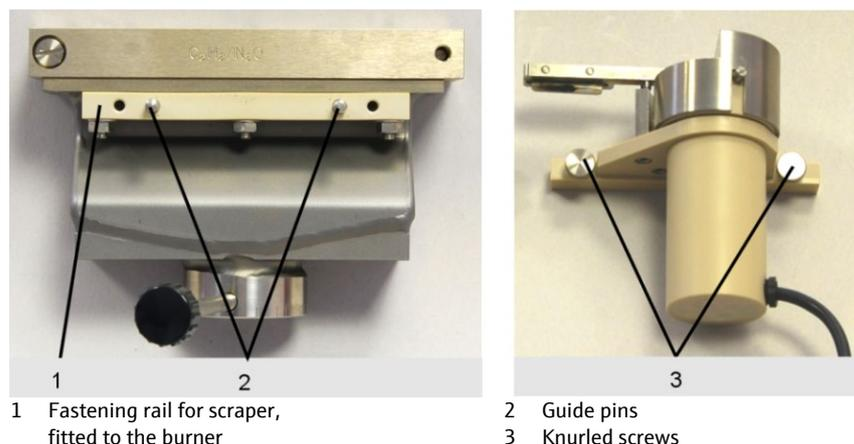

Fig. 48 Fastening rail / knurled screws at the scraper
2. Unscrew the fastening rail (1 in Fig. 48) with knurled head screws (3 in Fig. 48) from the scraper.
3. Fit the fastening screws to the burner body as shown in Fig. 48. Use the three long titanium screws and nuts supplied. Place the screws from the top through the front burner jaw and screw down the fastening rail with nuts.
Attach the scraper to the guide pins of the fastening rail (2 in Fig. 48) and tighten with knurled head screws (3 in Fig. 48).